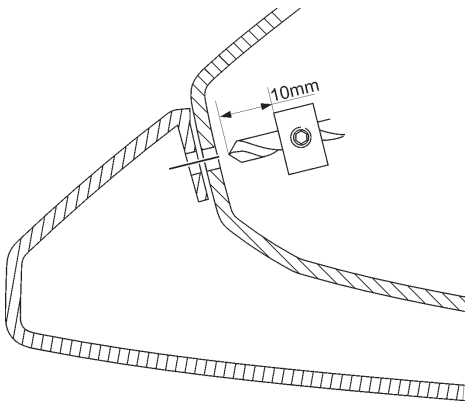

FIGURE 46
27. Drill a 4.2mm #19 (0.1660") hole through the fascia and the fixing lip of the front cladding. Use a drill depth stop set to 10mm to prevent drilling through to outer surface of the cladding. Refer to figure 46.